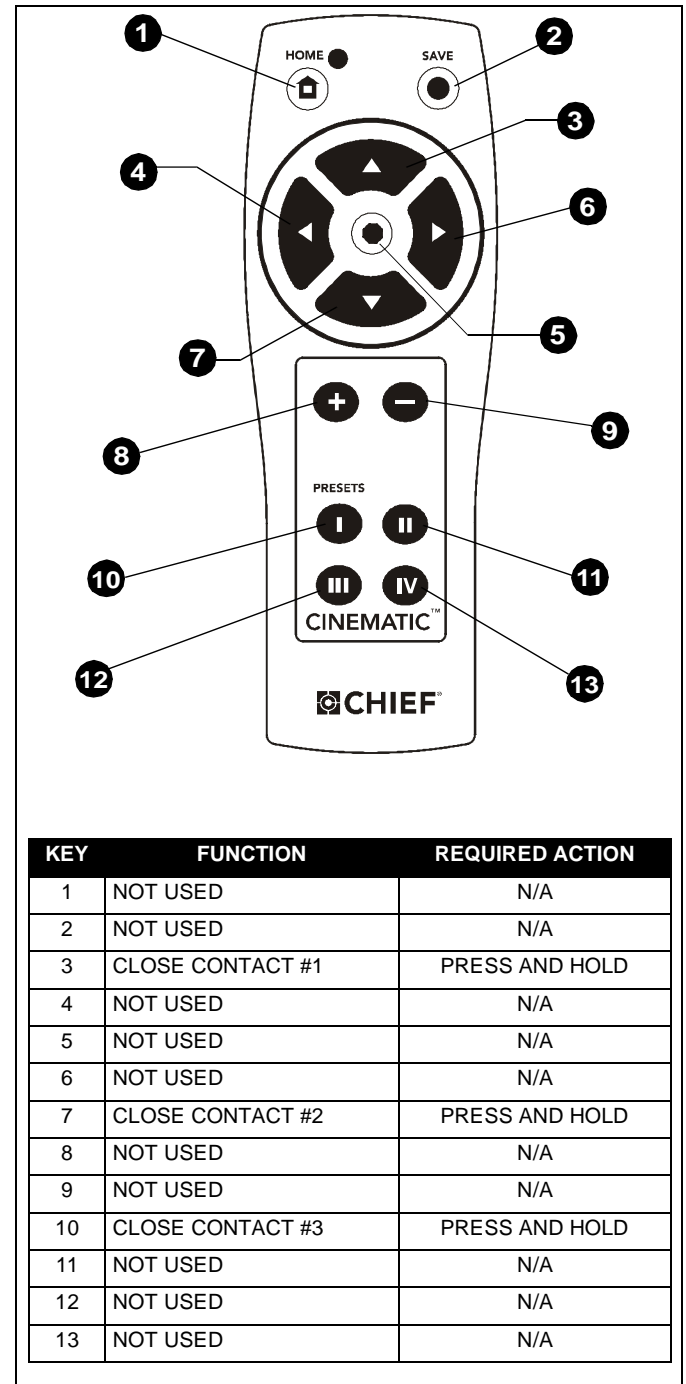

Figure 3
- System Code(s): 6E (Default) - Multiple Codes Selected via Key-Press (See Figure 3)